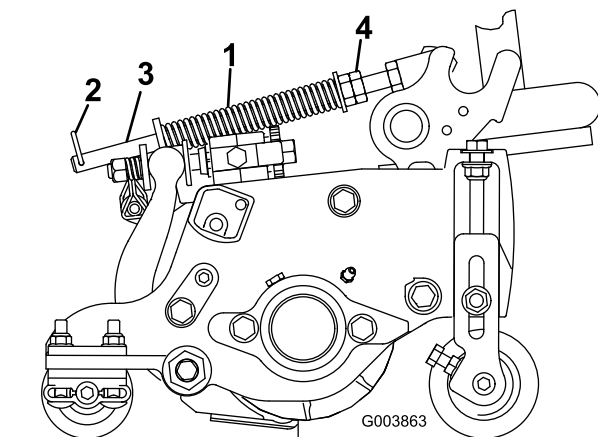

Figure 12
The turf compensation spring (Figure 12) transfers weight from the front to the rear roller. (This helps to reduce a wave pattern in the turf, also known as marcelling or bobbing.)
1. Make sure the hairpin cotter is installed in the rear hole in the spring rod (Figure 12).
2. Tighten the hex nuts on the front end of the spring rod until the compressed length of the spring is 5 inches (12.7 cm) on Reelmaster 5210 & 5410, 5 inch cutting units or 6.25 inches (15.9 cm) on Reelmaster 5510 & 5610, 7 inch cutting units (Figure 12).